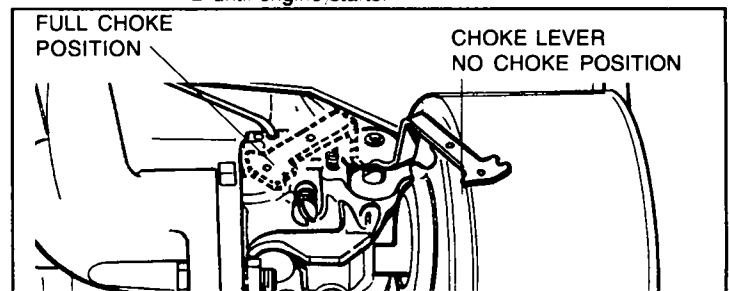

Figure 3
① RECOIL STARTER:
- Move choke lever (see Figure 3 or 4) to "FULL CHOKE POSITION".
② ELECTRIC STARTER:
- A. Move choke lever (see Figure 3 or 4) to "FULL CHOKE POSITION".